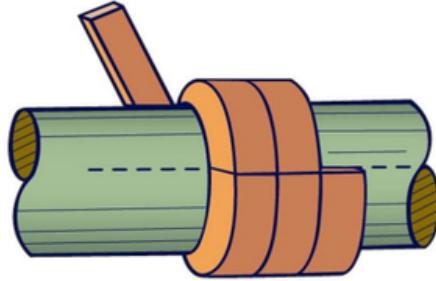

Figure 42. Butt Cut
3) **USE THE CORRECT CROSS-SECTION OF PACKING OR DIE-FORMED RINGS.** To determine the correct packing size, measure the diameter of the shaft or sleeve inside the stuffing box area, if possible, to determine the inner diameter (ID) of the ring. Then, measure the diameter of the stuffing box or bore to give the outer diameter (OD) of the ring. Subtract the ID measurement from the OD measurement and divide by two. The result is the cross-section size.
4) **WHEN USING COIL OR SPIRAL PACKING, ALWAYS CUT THE PACKING INTO SEPARATE RINGS.** Never wind a coil of packing into a stuffing box. Rings can be cut with butt (square) or skive (or diagonal) joints, depending on the method used for cutting (see Figures 42 and 43). Be sure the first ring is cut carefully and tested on the shaft for proper fit. The best way to cut packing rings is to cut them on a mandrel with the same diameter as the shaft in the stuffing box area.